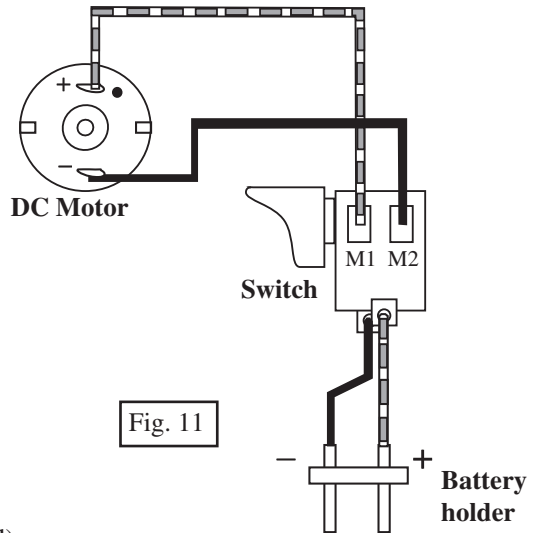

Fig. 11
- ( 4 ) Screw pan head screw M5x22 counter clockwise to secure the drill chuck. See Fig. 11.